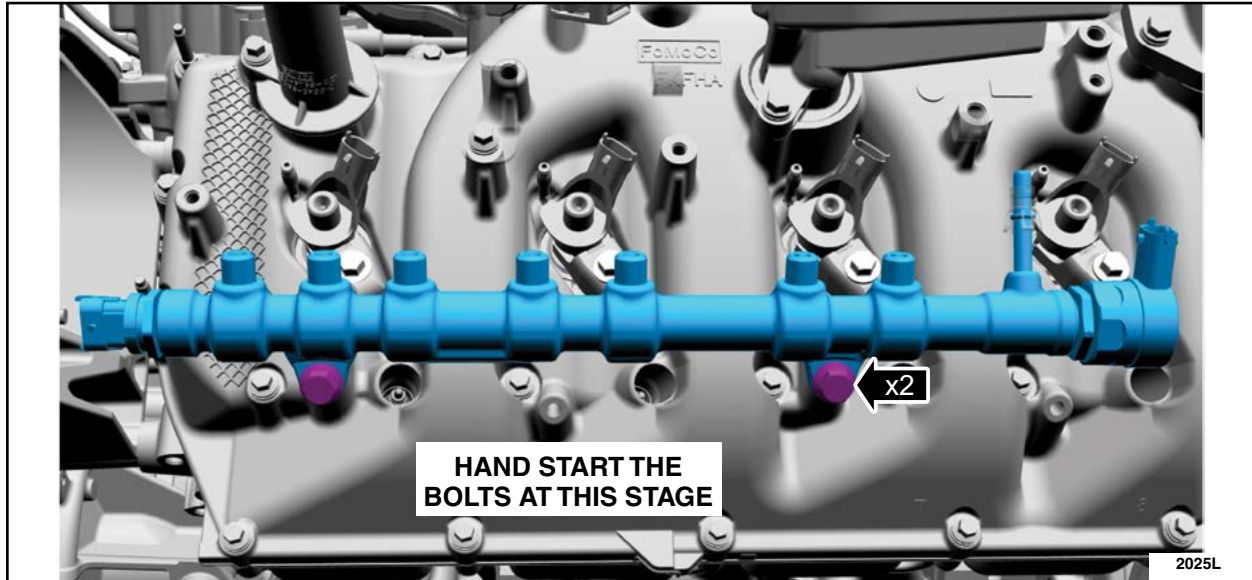

FIGURE 10
13. Position the new fuel rail in place and hand start the fuel rail bolts at this stage. See Figure 10.